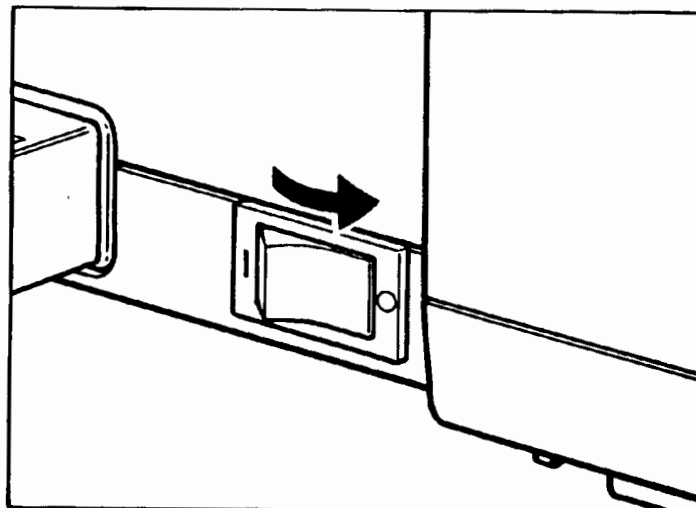

Figure C-7. Turning Off the Scanner
6. When the scanning unit has returned to its home position, turn the scanner off. See figure C-7.